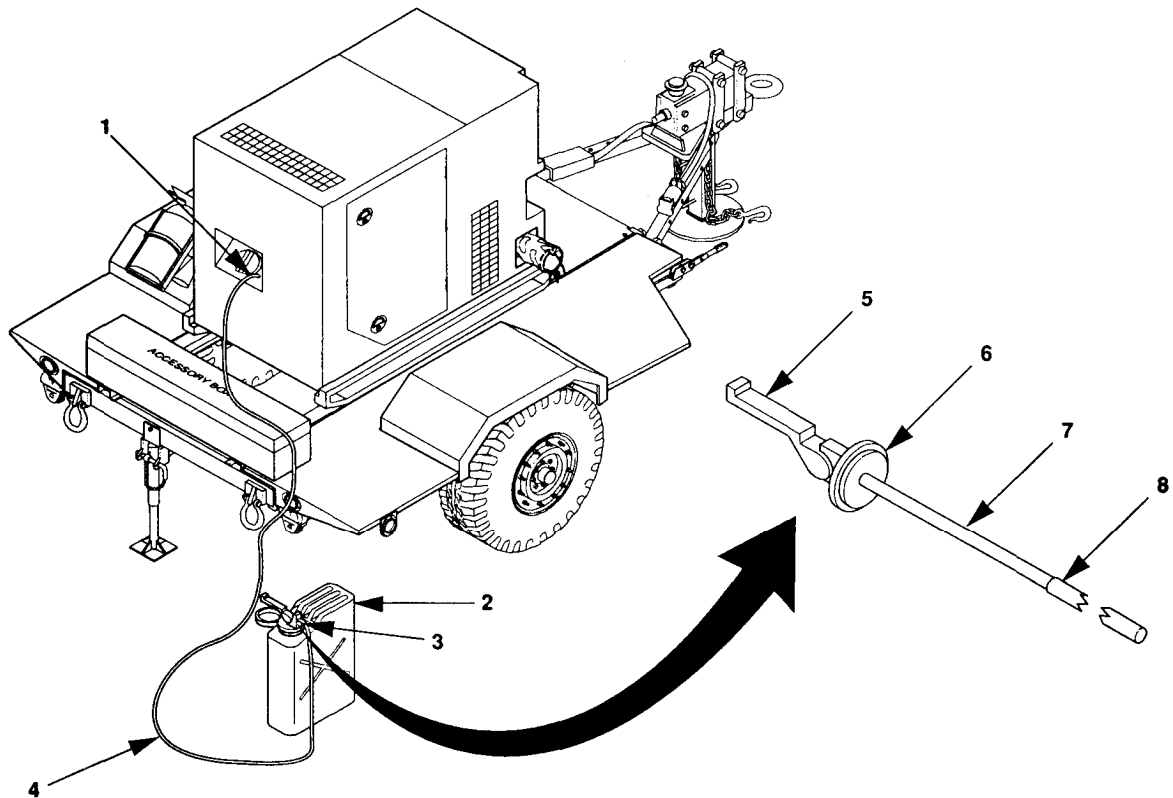

Figure 2-5. Auxiliary Fuel (Typical).
- a. Place the external fuel source (2, figure 2-5) several feet, but no more than 25 feet, away from the generator set.